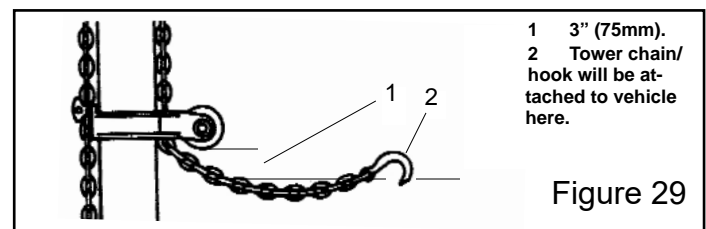

Figure 29
6. Support collar with one hand while loosening collar locking knob with opposite hand. Then position collar approximately 3 inches (75mm) above desired pulling height and retighten collar locking knob. (See Figure 29.)